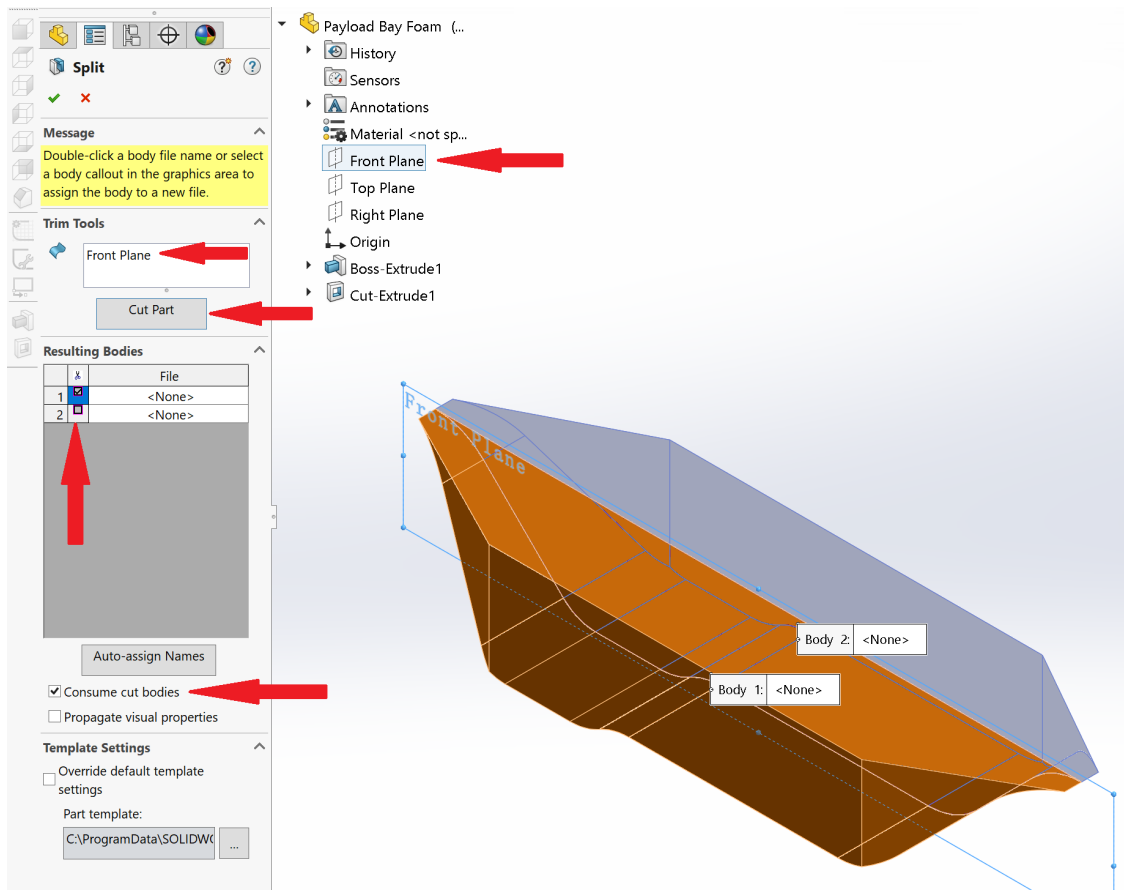

Figure 1.23: SolidWorks Split Menu
- In the pop up window, as shown in fig 1.23 below, in “Trim Tools” selected the desired plane (the front plane in this case) then click “Cut Body”. In the “Resulting Bodies” box, select one of the resulting bodies. Lastly, make sure the “Consume cut bodies” check box is selected, and click the top left green check mark. This will delete the selected half of the part (the brown half in fig 1.23).